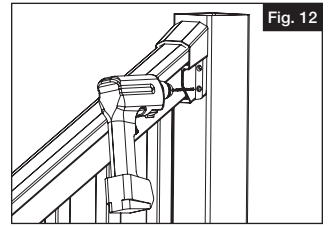
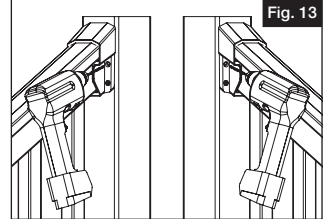

Fig. 12
Fig. 13
- a. Screw in top rail metal brackets to underside of each end of rail, with #10 x 1" square drive screw (sold separately) in middle slot of bracket (Fig 12).
- b. Begin at one side of rail and align first baluster with first routed hole on bottom side of top rail and snap top rail into position (Fig. 13).
- a. Center your bracket on the post. Using the holes in the bracket as a guide, pre-drill one of the lower holes with a  $\frac{5}{32}$ " drill bit (Fig 12). Drive one of the #10 x 2" screws through this hole. Pre-drill the other lower hole and drive another 2" screw into it. Now pre-drill the upper 2 holes in the bracket (Fig 13). Drive two more 2" screws into those holes. Be careful not to overtighten.